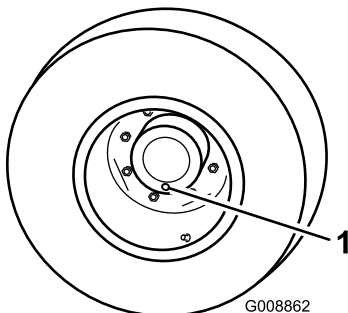

Figure 66
1. With the machine on a level surface, position a wheel so a check plug is at the lowest (6 o'clock) position (Figure 66).